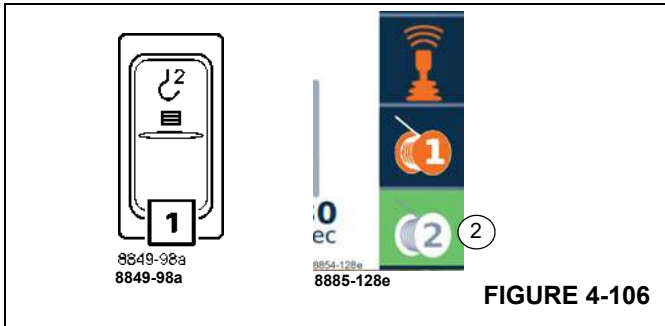

FIGURE 4-106
Press the button on the right armrest (1), (Figure 4-106) once.
Symbol (2), (Figure 4-106) is green when the auxiliary hoist is switched ON.